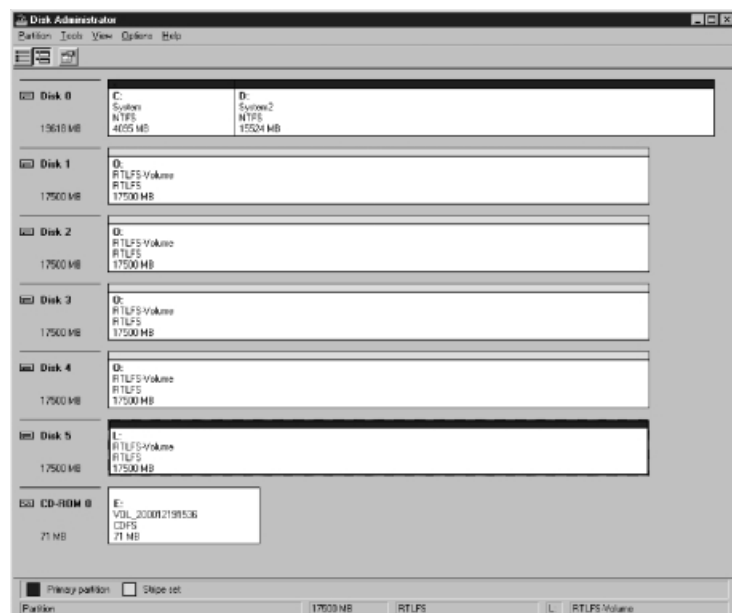

Fig. 1 Disk Administrator dialog box
5. The Disk Administrator now starts up, and the dialog box shown in Fig. 1 appears on the screen. (The display may vary slightly, depending on the changes made to the disc capacity, etc.)